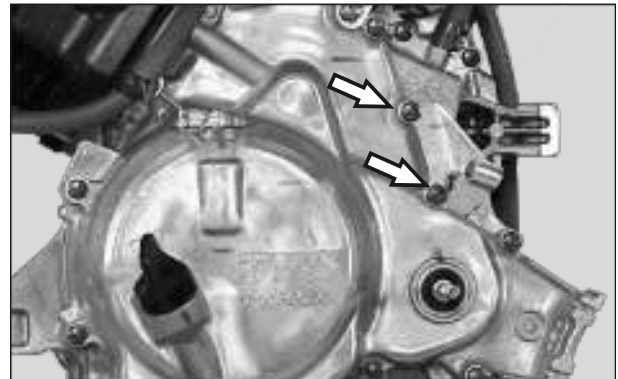

Fig. 3.15
- Loosen and remove 2 nos. hexagonal flange bolt M6X50 to separate the bracket abutment clutch from cover crank case R (Fig. 3.15)